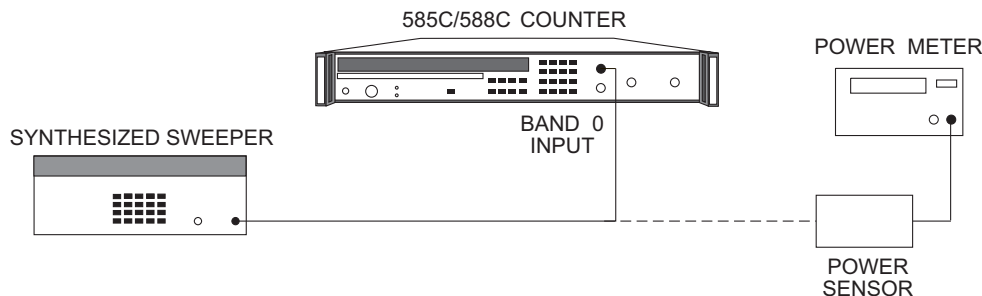

Figure 6-2. Band 0 Range and Sensitivity Test Setup (100 MHz to 250 MHz)
1. Connect equipment as shown in Figure 6-2.